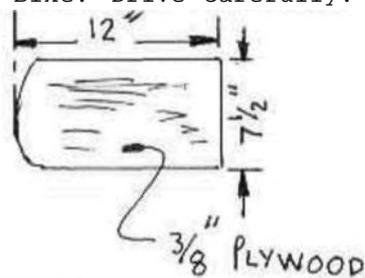

FIGURE 18
15. Cut a piece of $\frac{3}{8}$ " plywood as shown in Figure 18. Cut a piece of 2" or 3" foam the same size as the plywood. Cover with water resistant fabric, using tacks to fasten the fabric to the plywood. Drill two holes in the seat plate on the frame, and using wood screws, screw the seat to the frame. You are now ready to ride your Mini Bike. Drive carefully.